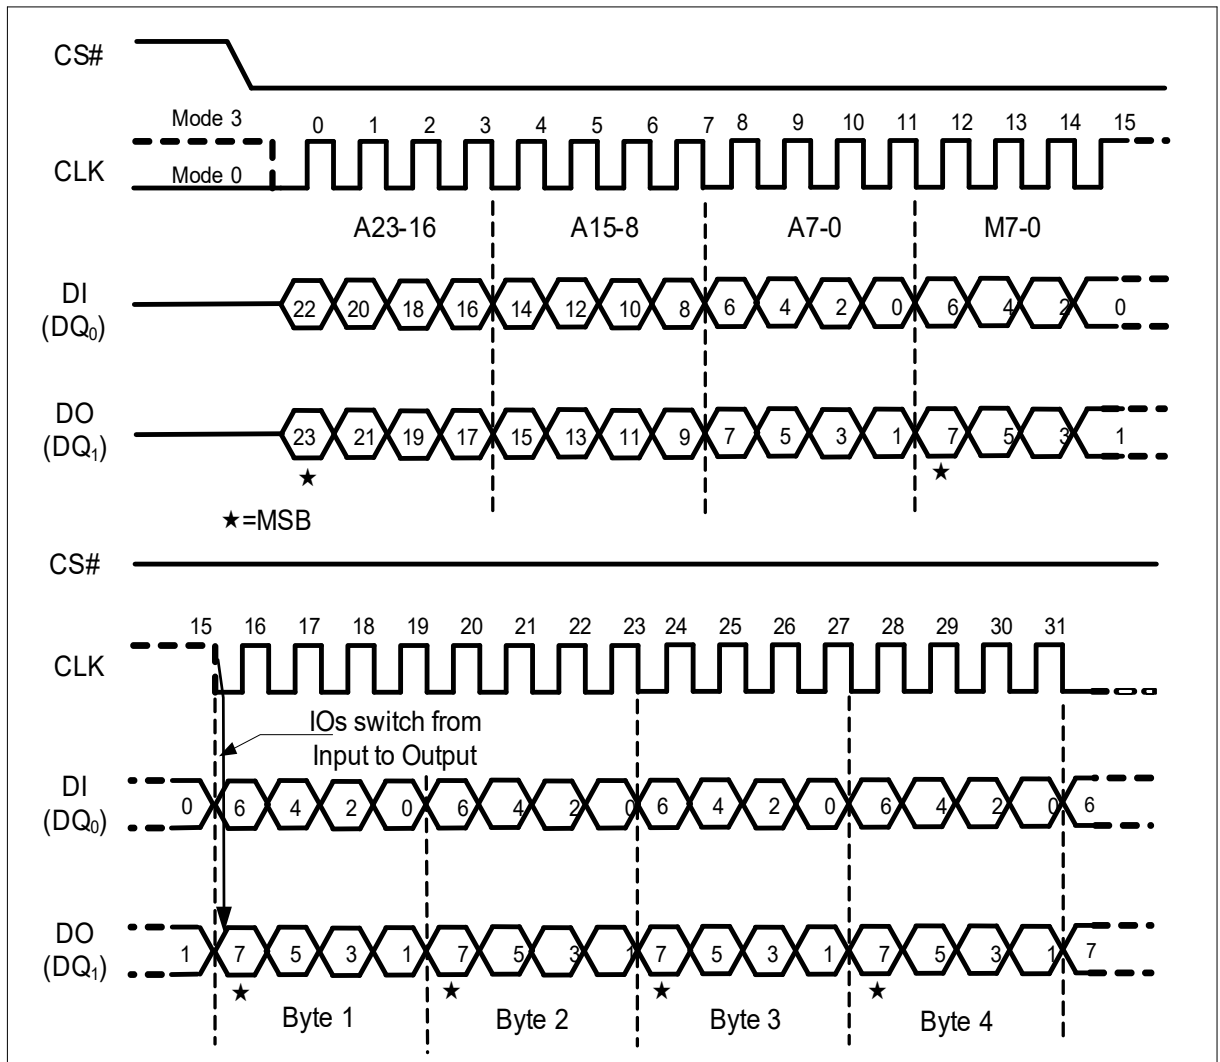

Figure 22 Fast Read Dual I/O Instruction (Previous instruction set M5-4 = 10, SPI Mode only)
If the “Continuous Read Mode” bits M5-4 = (1,0), then the next Fast Read Dual I/O instruction (after CS# is raised and then lowered) does not require the BBh instruction code, as shown in Figure 22. This reduces the instruction sequence by eight clocks and allows the Read address to be immediately entered after CS# is asserted low. If the “Continuous Read Mode” bits M5-4 do not equal to (10), the next instruction (after CS# is raised and then lowered) requires the first byte instruction code, thus returning to normal operation. It is recommended to input FFFFh on DQ₀ for the next (8 clocks), to ensure M4 = 1 and return the device to normal operation.